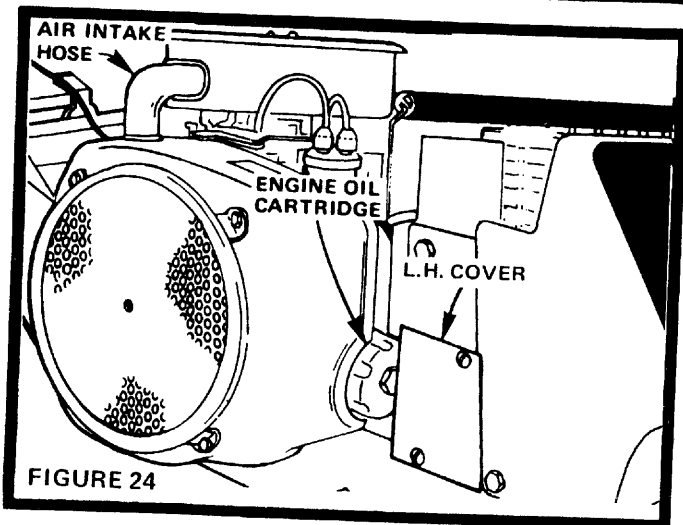

FIGURE 24
- Remove L.H. Cover (Fig. 24).
- Remove Air Intake Hose that connects to Blower Housing (Fig. 24). This provides an access to view Timing Mark.